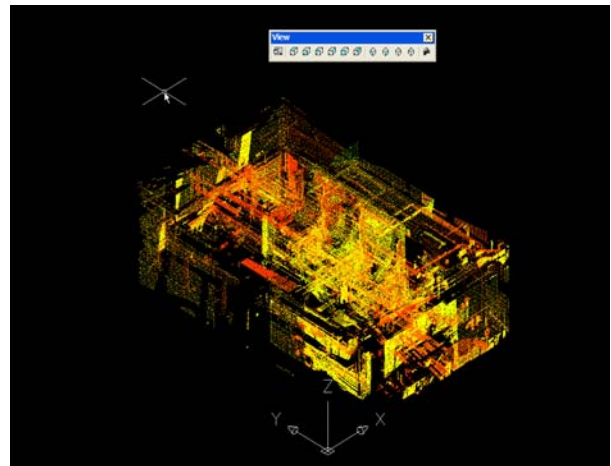

Figure 2.
1. View the plant from an isometric view as shown in *Figure 2*.